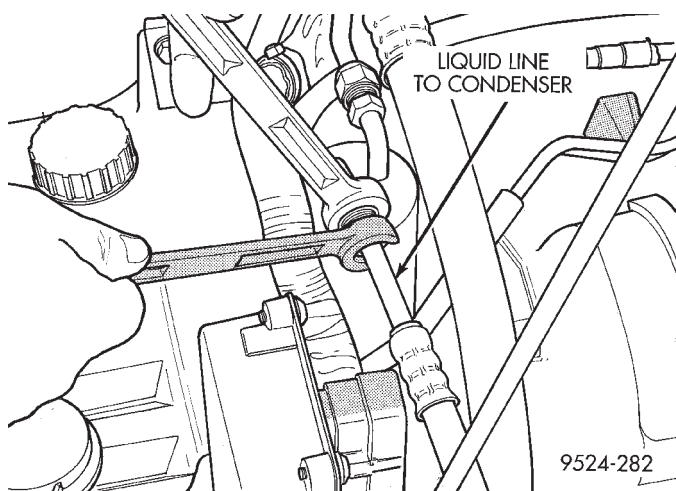

**Fig. 52 Liquid Line From Condenser**
- (1) Remove refrigerant from A/C system using a refrigerant recovery machine.
- (2) Remove liquid line at filter/drier from condenser (Fig. 52).